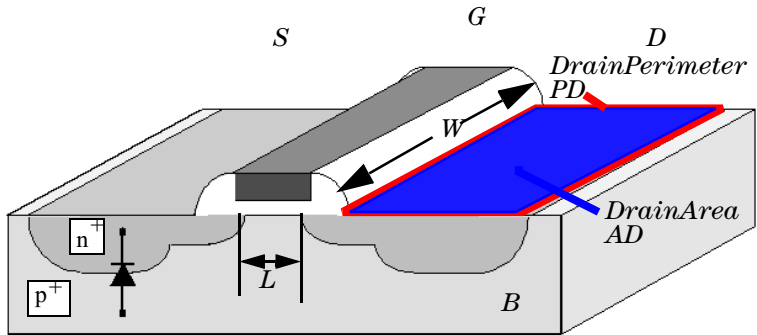
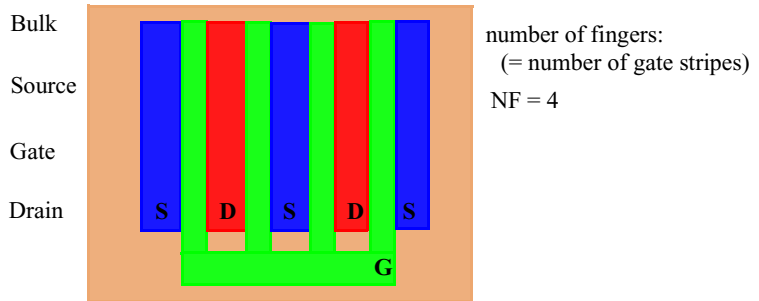
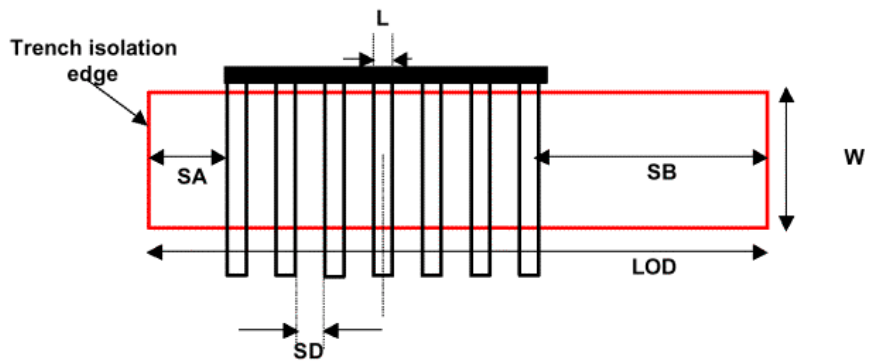

Figure 13 .Cross section of a MOSFET showing device geometries
Figure 14 Top view of a multifinger MOSFET
Figure 15 Shallow Trench Isolation related parameters
Now you can enter STI-related parameters. Refer to Figure 15 for details on these parameters.
For each line, enter a name for the DUT, gate length and width (L, W), drain and source areas (AD, AS), perimeter length of drain and source (PD, PS), and the number of device fingers (NF) of the transistor to be measured. If modeling stress effects in BSIM4 or PSP, enter SA, SB, and SD as well. See Figure 13 as well as Figure 14 for details on device geometry, respective Figure 15 for details on STI modeling parameters. Well Proximity modeling requires the entry of parameters SCA, SCB, SCC, and/or SC.
In addition to the standard BSIM4 definitions, columns for SA, SB and SD are available, see Figure 15 for a definition of the parameters used in shallow trench isolation modeling.